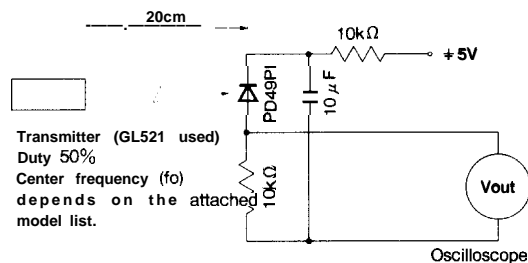
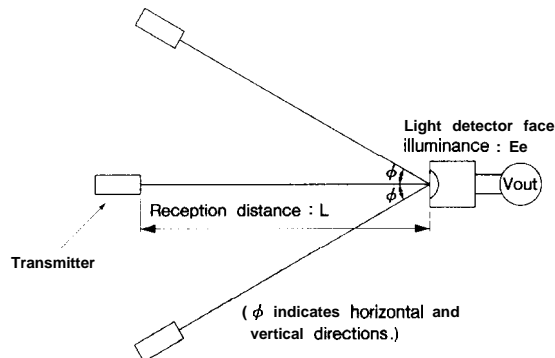

Fig. 1. Transmitter
Fig. 2. Standard optical system
*3 The burst wave as shown in the following figure shall be transmitted by the transmitter shown in Fig. 1.
Using the transmitter shown in Fig. 1, the output signal of the light detecting unit is good enough to meet the following items in the standard optical system in Fig. 2.
When $L = 0.2$ to 8m , $E_e < 10\text{lx}$ and $\phi = 0^\circ$ in Fig. 2, the output signal shall meet the electrical characteristics in the attached list.
When $L = 0.2$ to 6m , $E_e < 10\text{lx}$ and $\phi \leq 30^\circ$ in Fig. 2, the output signal shall meet the electrical characteristics in the attached list.
When $L = 0.2$ to 4m , $E_e \leq 300\text{lx}$ and $\phi = 0^\circ$ in Fig. 2, the output signal shall meet the electrical characteristics in the attached list.